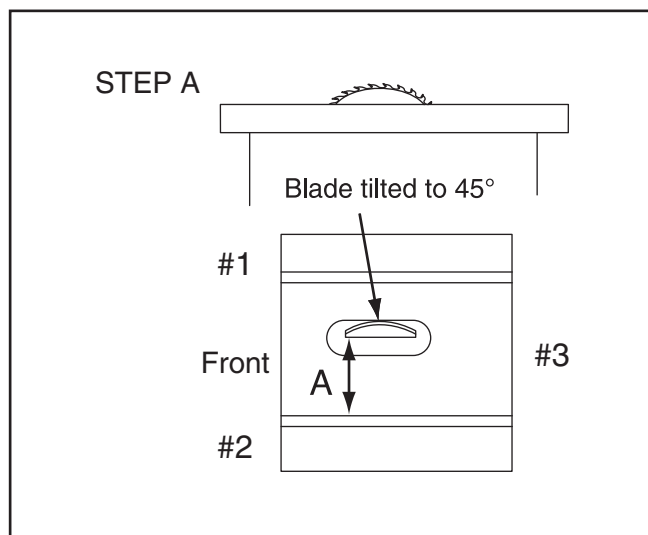

Figure 122. Shim procedure diagram A.
10. Refer to **Figures 122 and 123** for shim placement. If the distance of A is shorter than B, shim(s) will need to be placed under corners #1 and #2. If the distance of B is shorter than A, shim(s) will need to be placed under corner #3. Very thin shim stock works well.